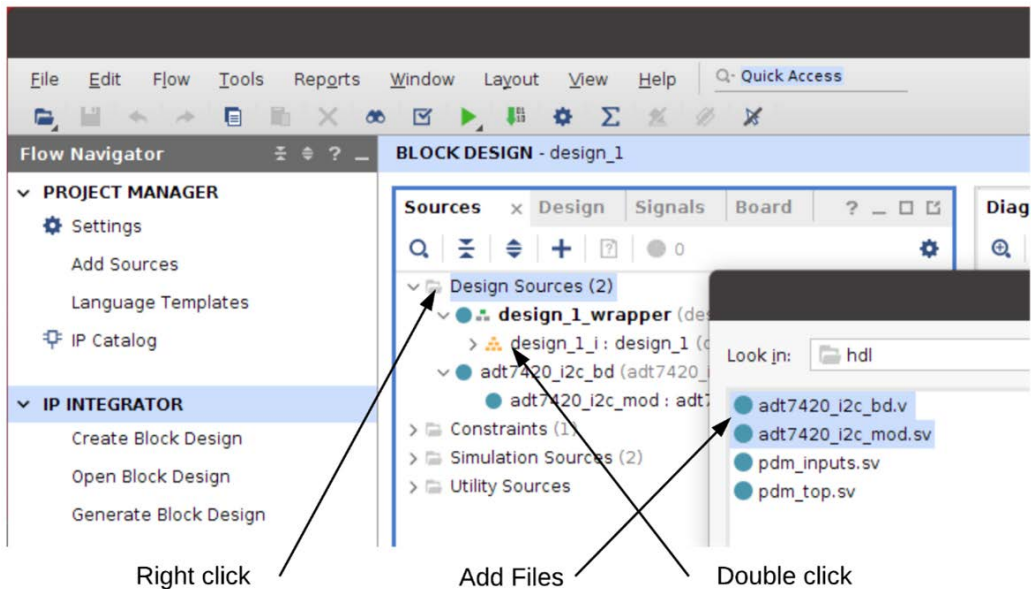

Figure 7.30 – Adding files to the design
2. Right-click on **Design Sources** and add the files as shown in *Figure 7.30*: